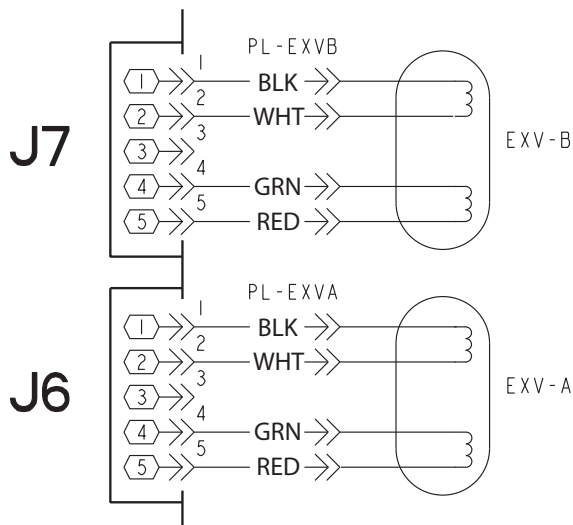

Fig. 41 — 30RAP010-060 EXV Cable Connections to EXV Module
Check the EXV output signals at appropriate terminals on the EXV board (see Fig. 41 or 42). Do not disconnect EXV connector with power applied to the board. Damage to the board may result if disconnected while under power. Connect positive test lead to EXV-J6 terminal 3 for Circuit A, EXV-J7 terminal 3 for Circuit B. Set meter to approximately 20 vdc. Using the Service Test procedure above, move the valve output under test to 100%. DO NOT short meter leads together or pin 3 to any other pin as board damage will occur.
2. Disconnect the EXV cable from the EXV. For sizes 010-060, refer to Fig. 41 or 42 and remove the EXV retainer clip, taking care not to damage the clip as it will be required for installation later.